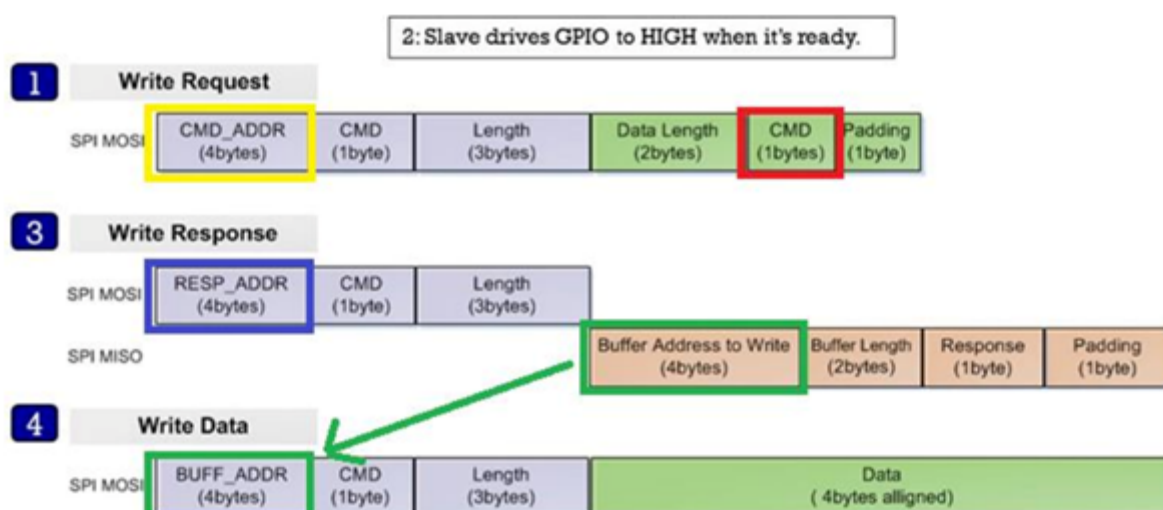

Figure 5. Structure of AT command
- 1: The Host sends a WRITE_REQ command (0x80, red rectangle in Figure 5) to the General Command address (0x50080254) (yellow rectangle in Figure 5).
- 3: The Host reads the Write Response message by Response Command address (0x50080258, blue rectangle in Figure 5) and parses it.
- 4: The Host sends data to address (BUFF_ADDR) which is received from the Slave in the Write Response message (green rectangle in Figure 5).